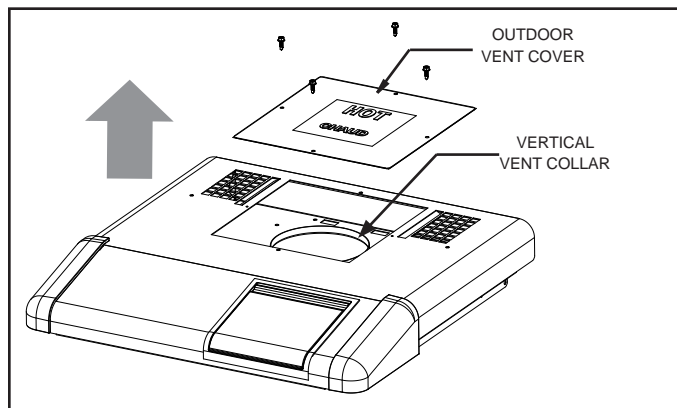

Figure 5. Removal of Outdoor Exhaust Grill
1. Remove the vent exhaust grill by removing the four screws which retain it. The grill and the screws may be discarded. See Figure 5.